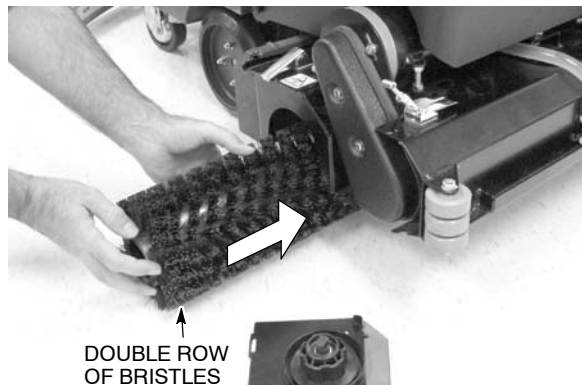

FIG. 8
4. With the double bristle row end towards you, guide the brush into the drive hub (Figure 8).